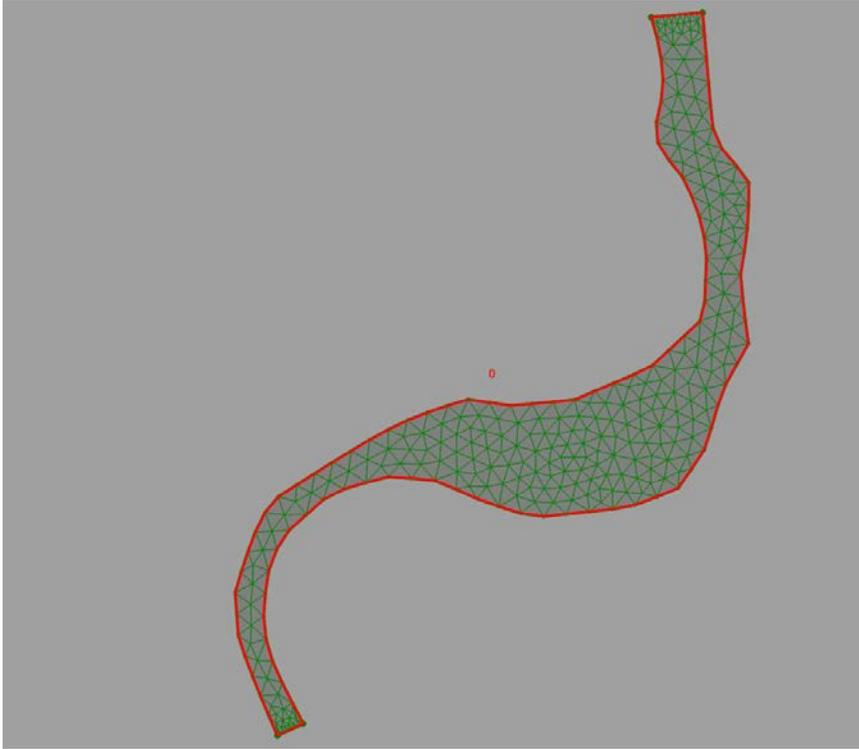

Figure 5-8. SRH-Mesh triangle mesh.
Step 3: Click the select-outside-lines button  and hold the Ctrl key to select all four sides (lines) for the mesh. Click triangle-mesh button , and you have your first triangle mesh (Figure 5-8).